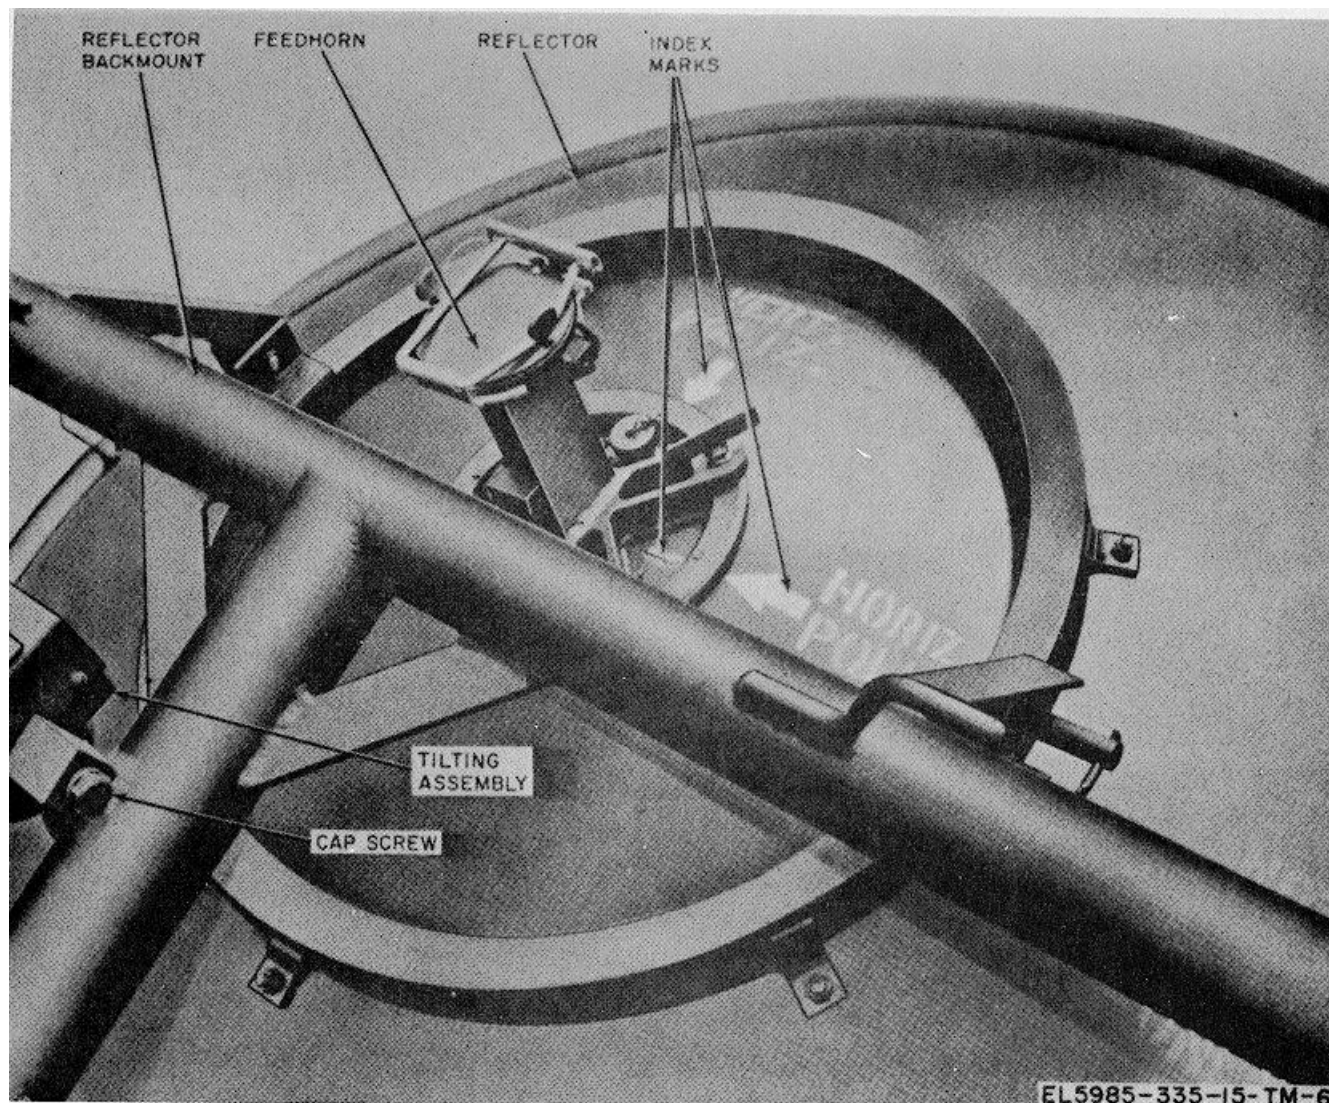

Figure 2-6. Setting antenna polarization.
- f. Insert the feedhorn through the circular opening in the antenna reflector. Turn the feedhorn assembly so that the index arrow on the feedhorn mounting plate matches the appropriate polarization index arrow on the reflector, as shown in figure 2-6.
- e. Insert the feedhorn through the circular opening in the antenna reflector. Turn the feedhorn assembly so that the index arrow on the feedhorn mounting plate matches the appropriate polarization index arrow on the reflector, as shown in figure 2-6.
- i. Attach shackles to backmount eyebolts. Attach four purple-coded cables to shackles. Attach the four tensioners to the free end of the cable assemblies. Figure 2-6 shows the guy cable arrangement for the antenna with the antenna extension kit.